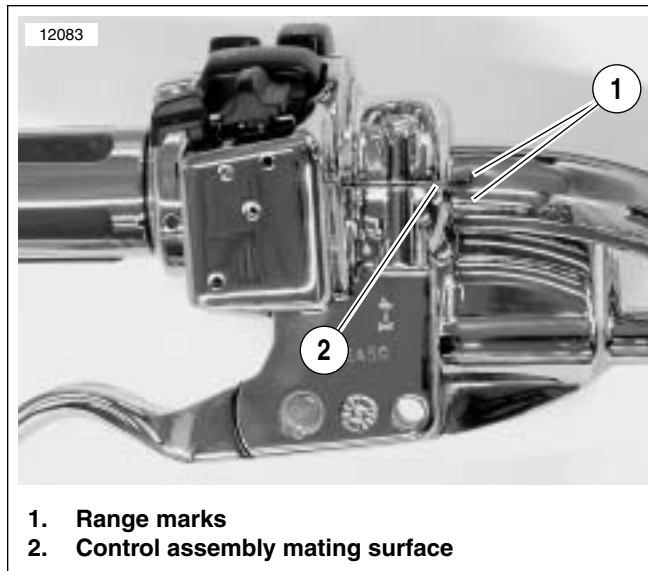

Figure 2-19. Range Marks (Handlebar Control Assembly Bottom View, Left Side Shown)
14. See Figure 2-19. Range marks are located on bottom of handlebar adjacent to clamp assembly. Rotate right control and brake master cylinder assembly **slightly** for most comfortable riding position. Make sure control assembly is positioned so that clamp mating surface is located in area between range marks.
21. See Figure 2-19. Range marks are located on bottom of handlebar adjacent to clamp assembly. Rotate left control and brake master cylinder assembly **slightly** for most comfortable riding position. Make sure control assembly is positioned so that clamp mating surface is located in area between range marks.